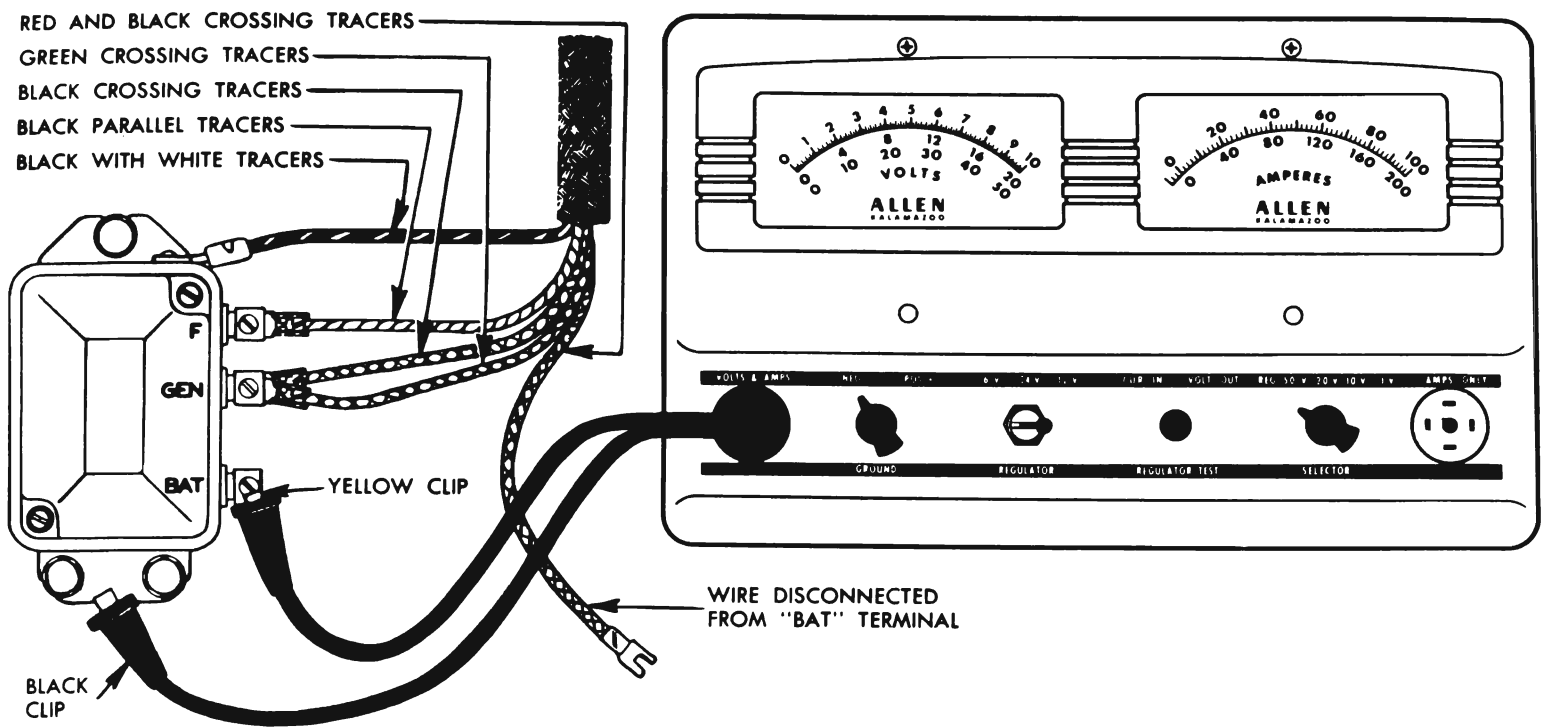

Figure 10-18—Voltage and Current Regulator Test Connections—Allen Tester
12. Turn "SELECTOR" switch to "REG" position, leave "GROUND" switch at "NEG" position, and turn "REGULATOR" switch to "12V" position. Connect YELLOW clip of voltmeter lead to regulator terminal marked "BAT" and leave BLACK clip connected to ground on base plate of regulator. See figure 10-18.